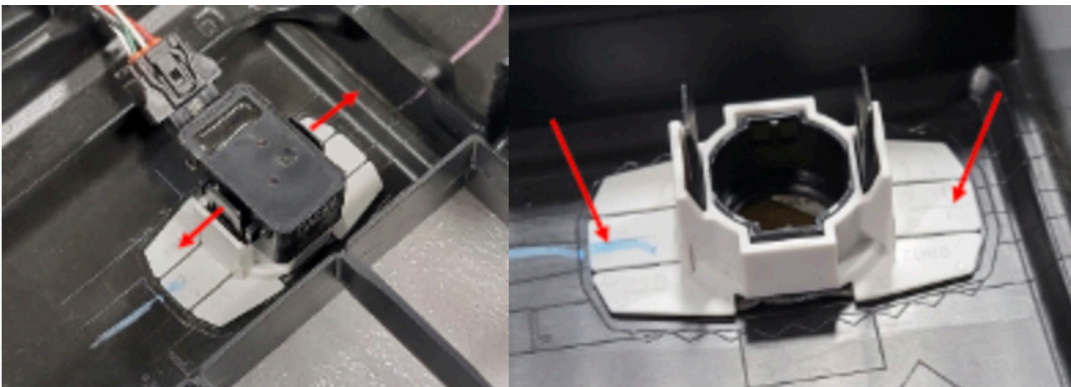

Figure 15-16.
14. Remove the 2x parking sensors from the bumper by carefully pulling the 2x black clips away from the sensor and moving the sensor up out of the housing. Once the sensor is removed from the housing, carefully use a cutting or prying tool to peel the housing off the of the bumper fascia. Figure 15-16.